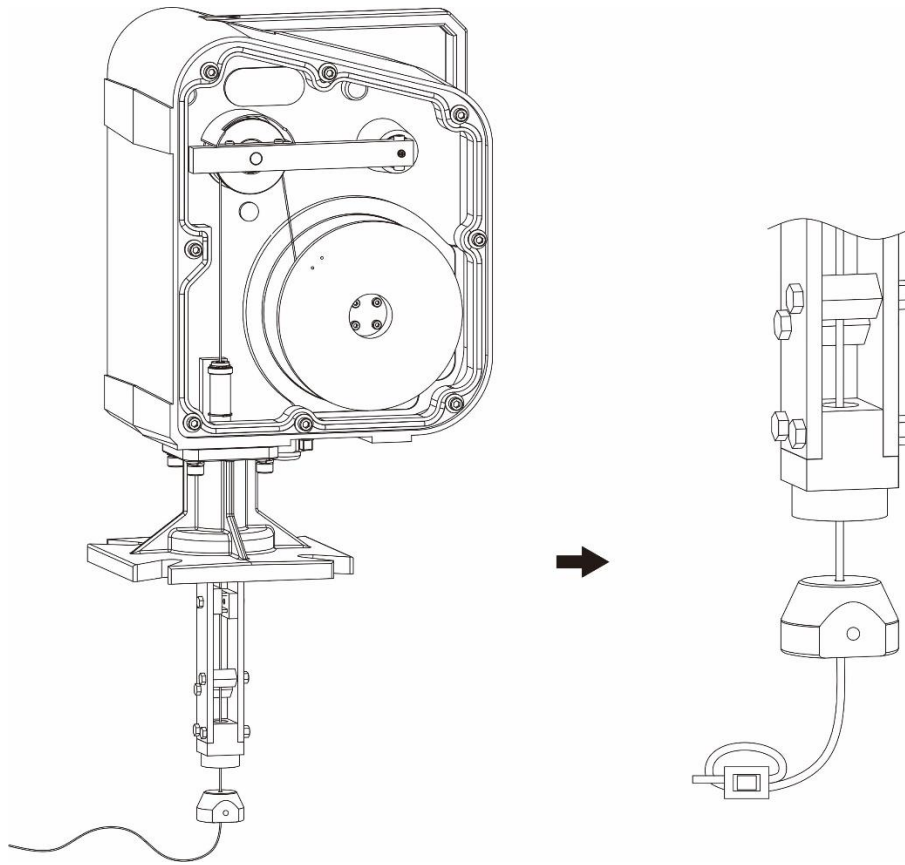

Fig.3
8.2.4 Insert the end of the cable wire through the hanging bolt of the sensing weight and the short steel pipe which is used for crimping, and then go through the steel pipe again in a circle. Use the pliers (2 mm2 for holes) to do the crimping firmly at the central steel pipe (Fig.3).